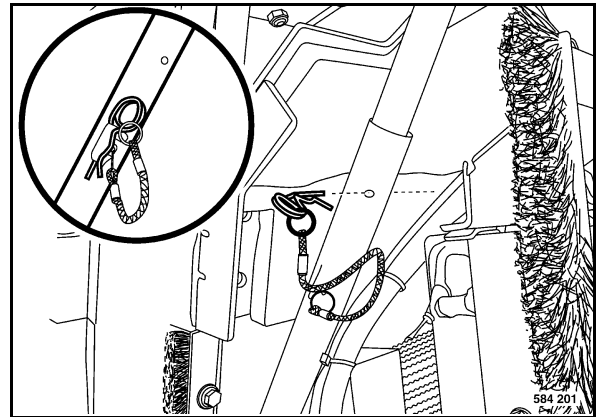

Fig. 183
- Open the engine hood (Fig. 183) completely and secure it.